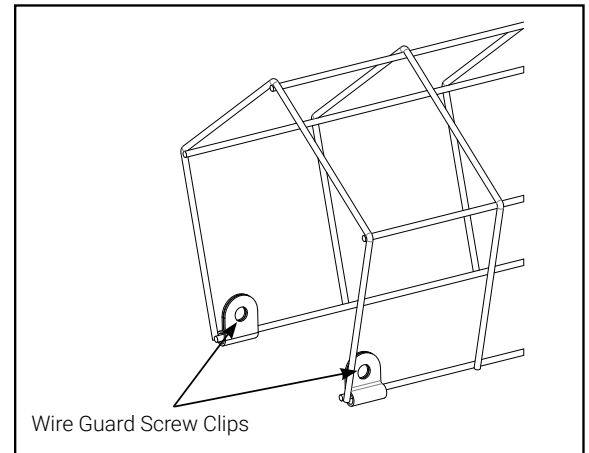

Figure 1.
2. Remove wire clips from bag and snap on to the ends of the wire guard (Figure 1)